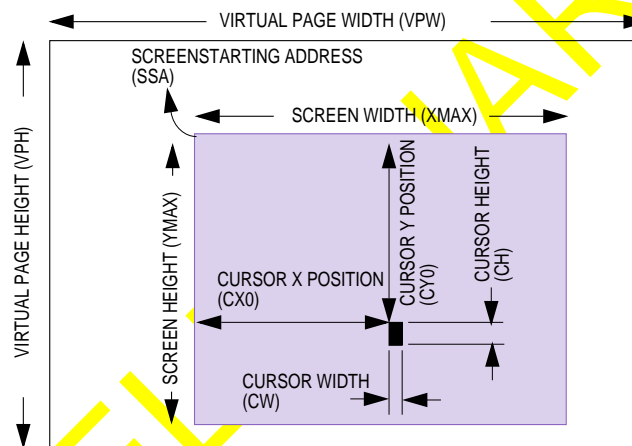

Figure 8-6. LCD Screen Format
**8.2.4.1 LCD SCREEN FORMAT.** The LCD panel's screen width and height can be programmed in the software. Figure 8-6 illustrates the relationship between part of a large graphics file displayed on screen versus the actual page in pixel counts.
The screen width (XMAX) and screen height (YMAX) registers specify the size of the LCD panel. The LCD controller starts scanning the display memory at the location pointed to by the screen starting address (SSA) register, which means the LCD panel will display the shaded area in Figure 8-6.
The LCD controller is configured to only drive single-scan monochrome LCD panels. It cannot handle color STN or TFT panels. However, grayscale generation can be selected by setting the GS bit in the panel interface configuration register (PICF). In grayscale mode, the number of data words for displaying the gray levels increases as opposed to black and white mode. Also, the line buffer must be filled before the next line is displayed. Therefore, the LCD pixel clocking, LCD frame refresh rate, line buffer fill, and line to line interval are affected by the selection of grayscale mode. The frame refresh rate and pixel clocking are determined by the pixel clock divider register (PXCD). Frame refresh is also a function of the LCD screen size in pixels. Therefore, the XMAX and YMAX registers are factors for calculating frame refresh. Figure 8-6 illustrates a formula and examples for.